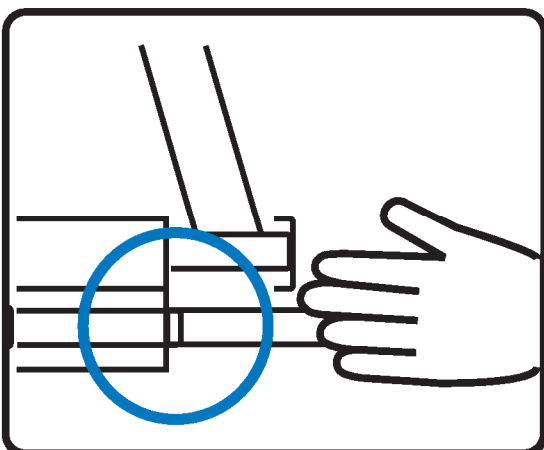

Figure 3.
- Push the keyboard drawer into the rack. (shown in Figure 3).